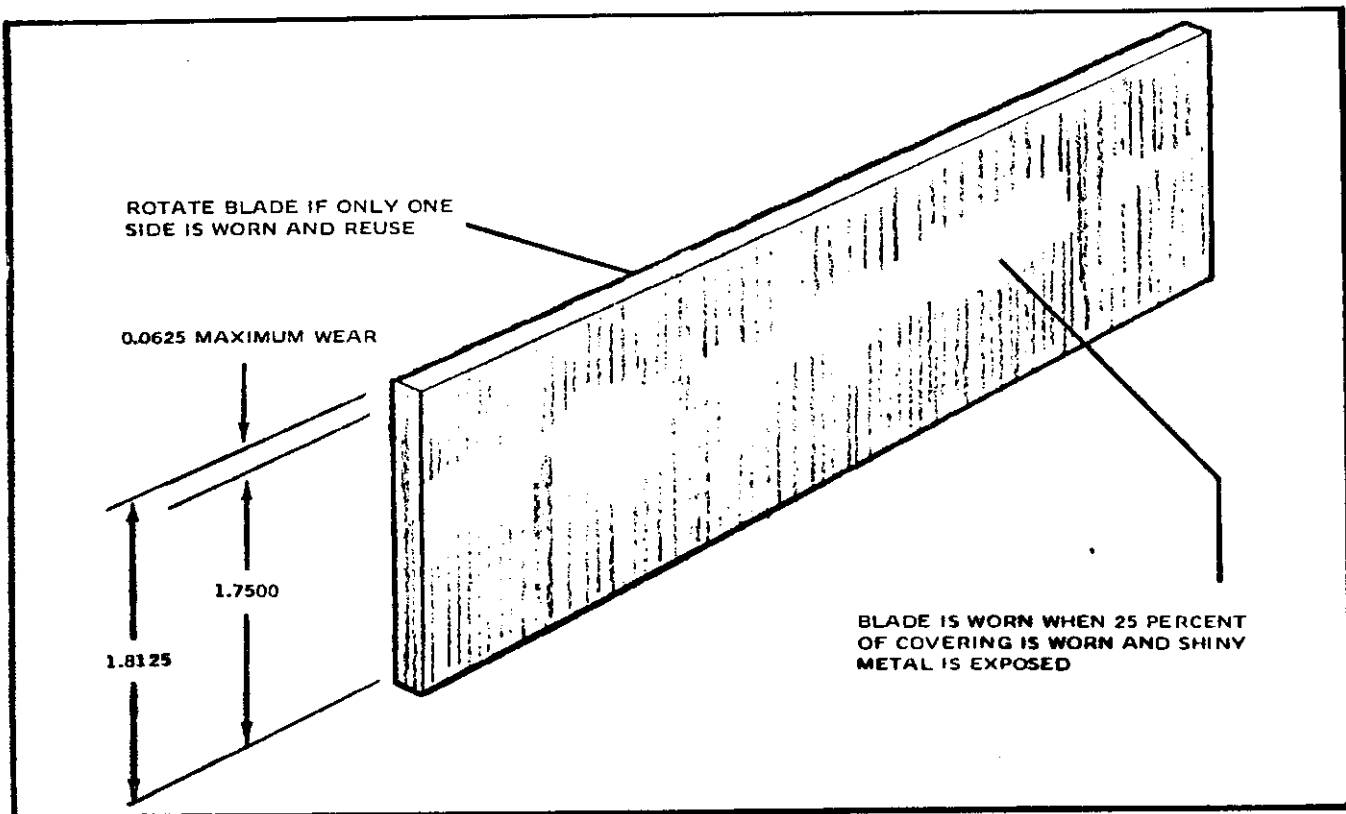

Figure 5-8. Rotor Blade Inspection
g. Inspect blades for evidence of excessive wear. See Figure 5-8. Blades are excessively worn when 25 per cent of covering per side has been removed, and shiny metal exposed. Blades worn on one side only can be turned around and reused. Replace blades which have suffered a loss of 1/16-inch in height due to wear. See Figure 5-8. Replace blades worn on both sides. Replace blades damaged by scores or chips.